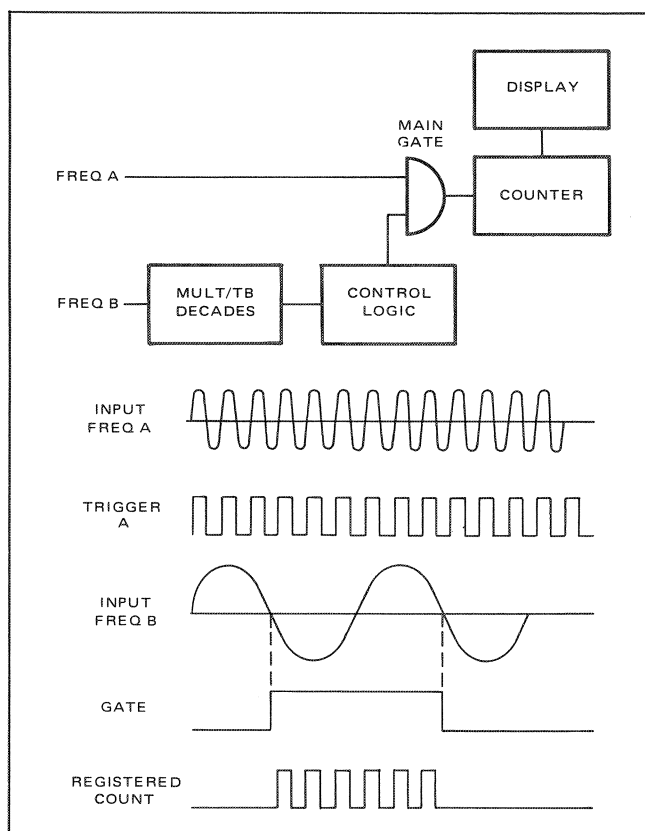

Figure 4.10 - A/B Ratio Mode
4.35 This mode is identical in function to the frequency measurement modes, but substitutes an external signal for the reference frequency (figure 4.10).